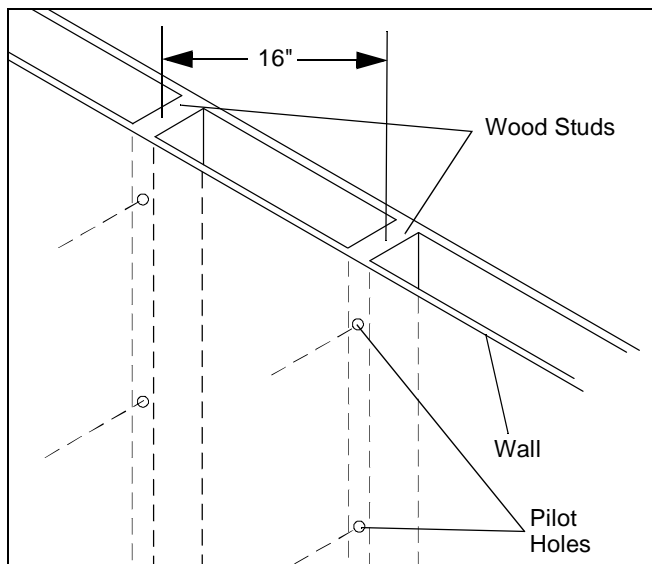

Figure 1
7. Drill two 7/32" pilot holes where the mounting holes were marked for anchoring the top bracket on the PDR. (See Figure 1)